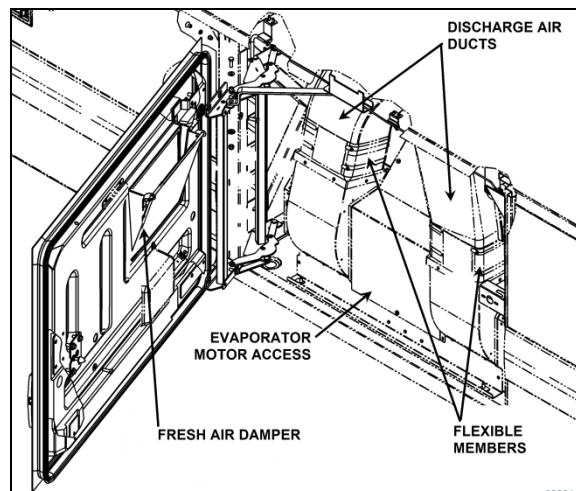

FIGURE 83: X3 SERIES PASSENGERS' AREA FRESH AIR DAMPER
- X3 Series - On the evaporator compartment door (Figure 83).